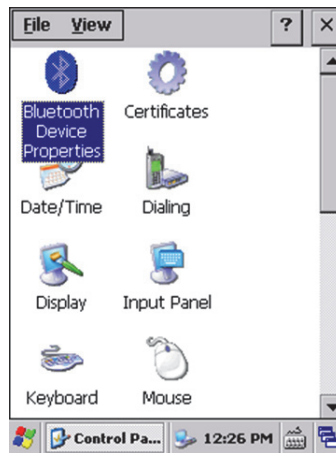

Figure G-7 DELTA Control Panel
6. Double-tap the Bluetooth® icon  (Bluetooth Device Properties) in the Control Panel (see Figure G-7 on page 180).